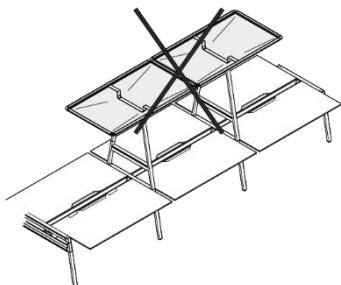

Figure 31 Canopy, impermissible attachment
- Two canopies directly next to each other over desks with a width of 1400 mm (see Figure 31).